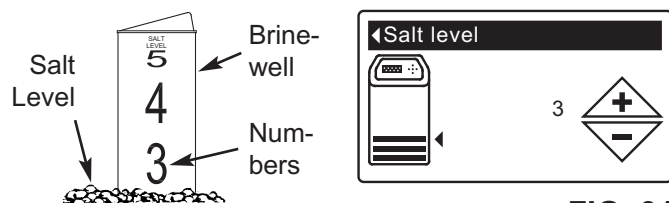

FIG. 31
5. Press the OK/MENU button to display the Salt level screen (See Figure 31). This screen will not automatically exit for 15 minutes.
6. After adding and leveling salt, observe the numbered scale on the brine well (See Figure 31). Press UP ▲ or DOWN ▼ to change the salt level to match the lowest number visible above the salt.